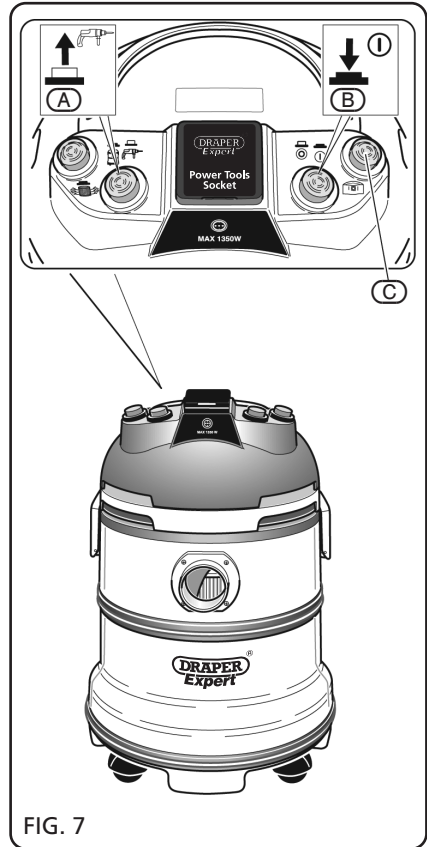

FIG. 7
8.4 USING THE VACUUM WITH THE POWER TOOLS SOCKET (FIG.7):